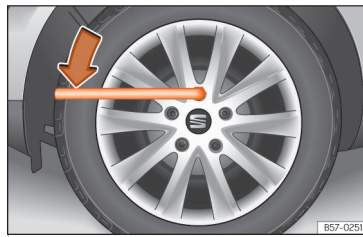

Fig. 187 Tyre change: slacken the wheel bolts.
- Fit the box spanner into the bolt as far as it will go »» Fig. 187.